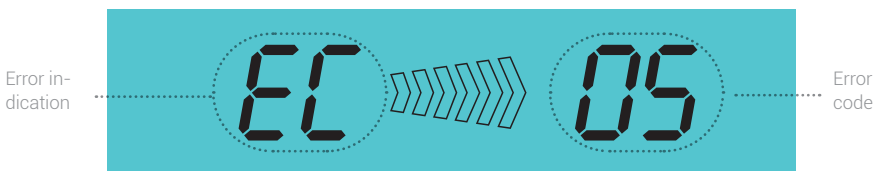

Figure 19 Example of error indication
- The LCD display will appear as shown in Figure 19 (error «EC05», blinking segments are circled).